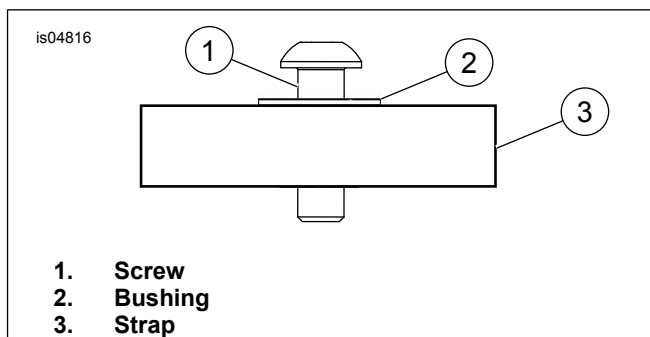

Figure 4. Screw and Bushing Configuration
1. See Figure 2 and Table 1. Install quick release catch strap on air intake cover using screw (7 or 7A) and bushing (8). Position bushing as shown in Figure 4. Tighten screw to 1.4–4.1 N·m (12–36 in-lbs). Repeat for opposite side hardware.
3. See Figure 4. Insert screw (1) and bushing (2) through each latch strap (3) hole into rear cover mounting holes. Tighten screw to 1.4–4.1 N·m (12–36 in-lbs).